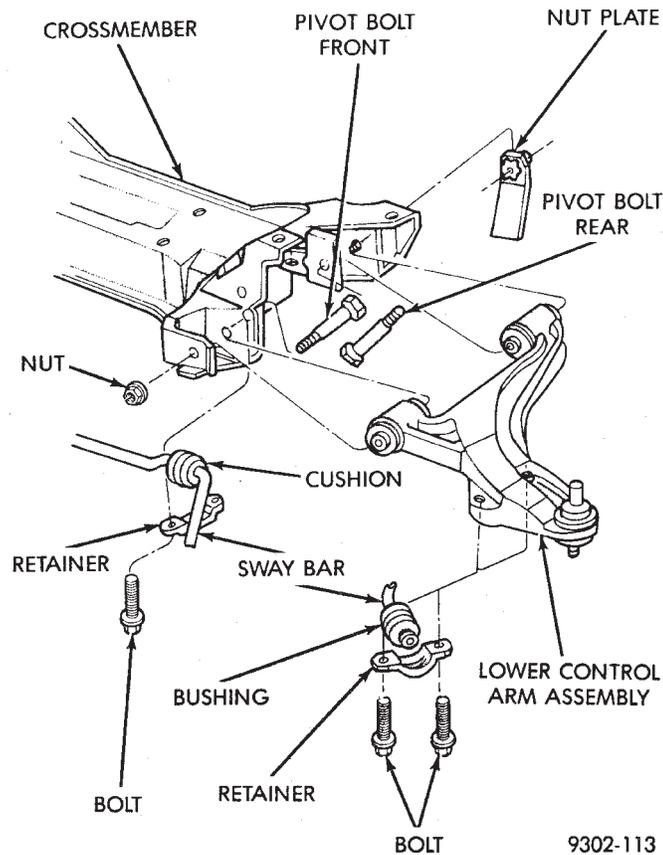

Fig. 2 Lower Control Arm Typical
- (3) Remove the sway bar to lower control arm retainer on both sides of the vehicle (Fig. 2). Then rotate the sway bar down away from the lower control arms.
- (5) Remove the front and rear control arm pivot bushing to crossmember attaching nuts and bolts (Fig. 2). Then remove the lower control arm from the crossmember.
(1) Position lower control arm assembly into crossmember and install front and rear pivot bushing to crossmember attaching bolts (Fig. 2). Loosely assemble nuts to attaching bolts **but do not tighten at this time.**